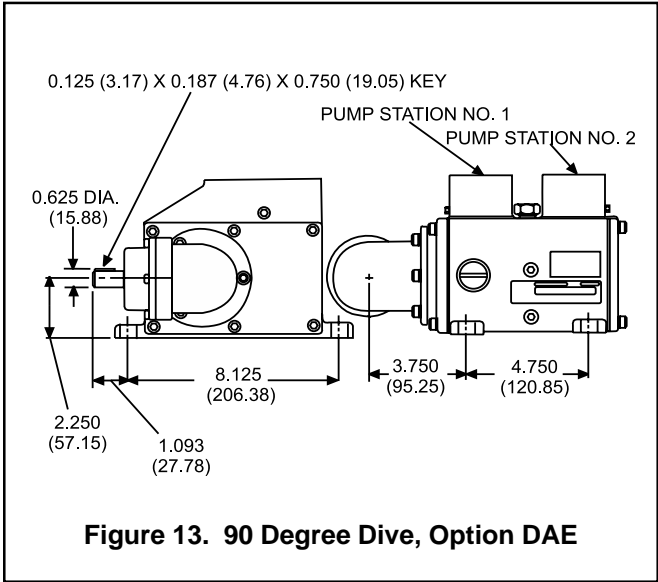

Figure 13. 90 Degree Drive, Option DAE
**90 Degree Drive.** A bevel gear arrangement allows the driveshaft to extend from the rear of this unit. Figure 13 illustrates the 90 degree drive, option DAE.